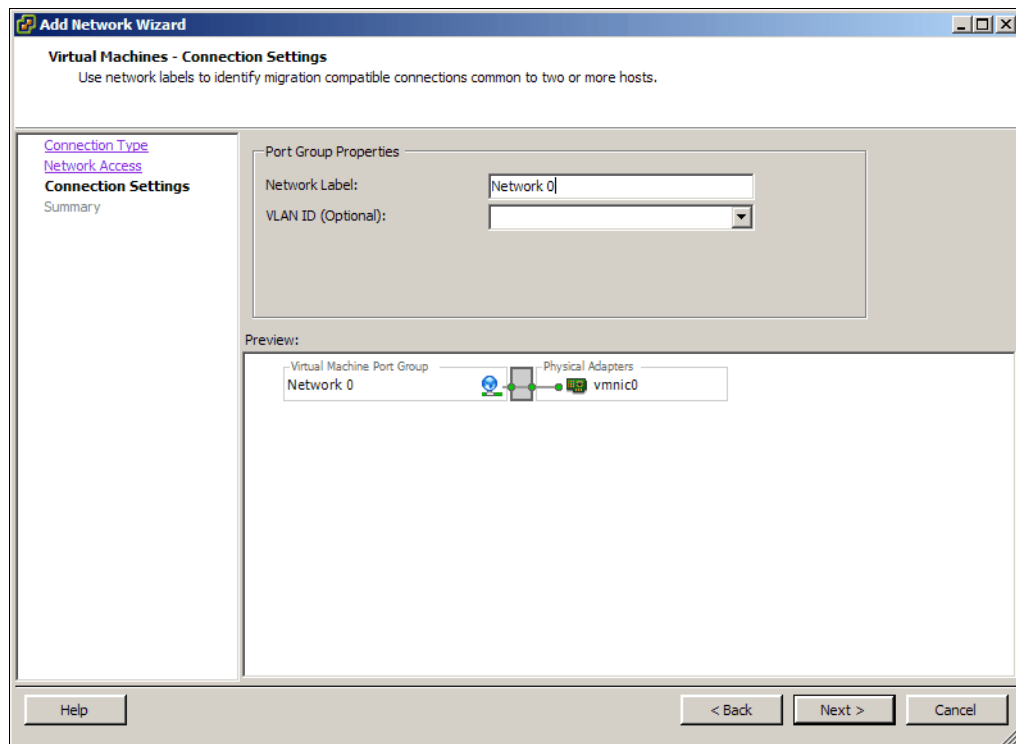

Figure 22-71 Virtual Network Label
- On the Network Label, type Network 0 as shown in Figure 22-71, and click **Next** and then **Finish**.